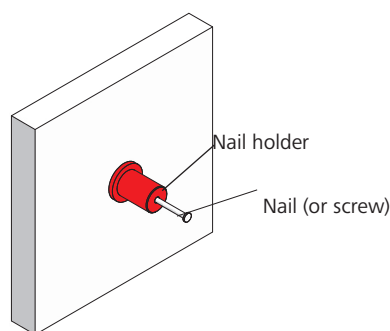

Fig. 6.2
1. Attach the integrated nail holder to the facing using a 65 mm nail (dia. 2.8 mm) or a screw (Fig. 6.2 and 7.4).